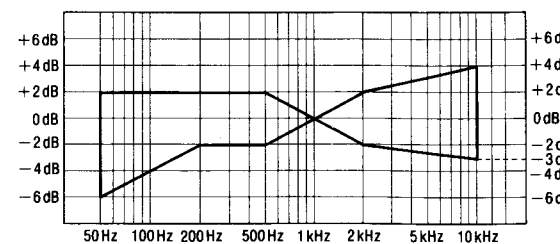

Fig. 5
3. Check that the frequency is within the range shown in Fig. 5 for both L-CH and R-CH.